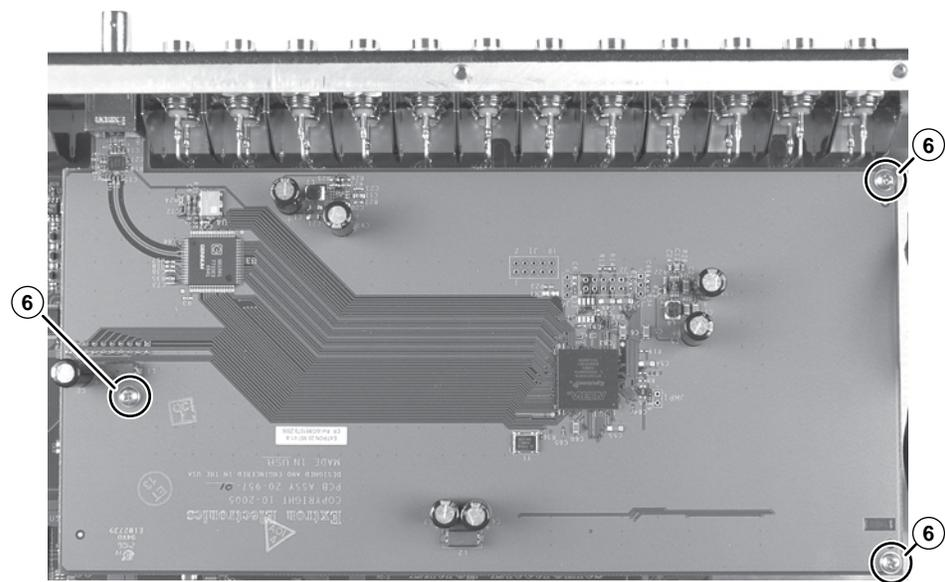

Figure 7-4 — Secure the input board to the standoffs
6. See figure 7-4. Secure the input board to the standoffs on the main board with the three included screws (⑥).